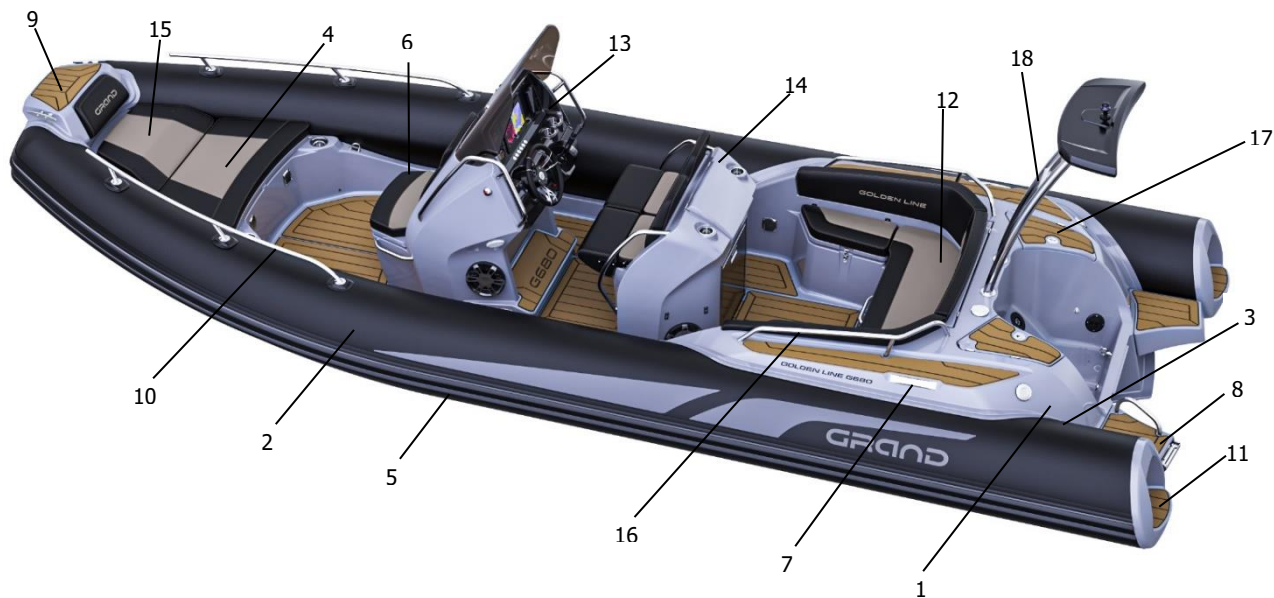

Fig. 51. General arrangement of a boat.
***General arrangement of a boat*** (see fig. 51 on the previous page):